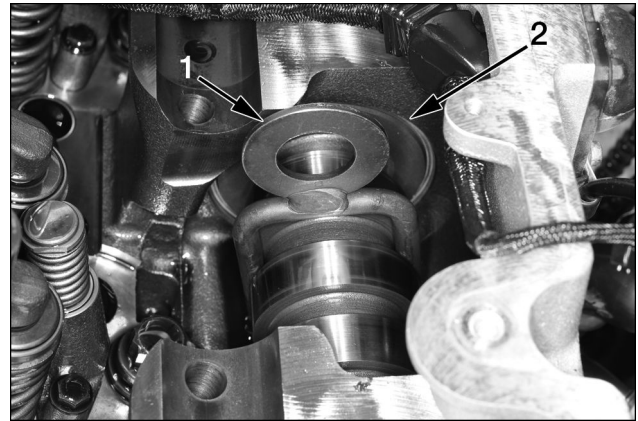

Figure 657 Camshaft Position Retainer
1. 5/16 - 18 X 0.87 Torx screw (3)
16. Remove Camshaft Position Retainer from camshaft (Figure 657).